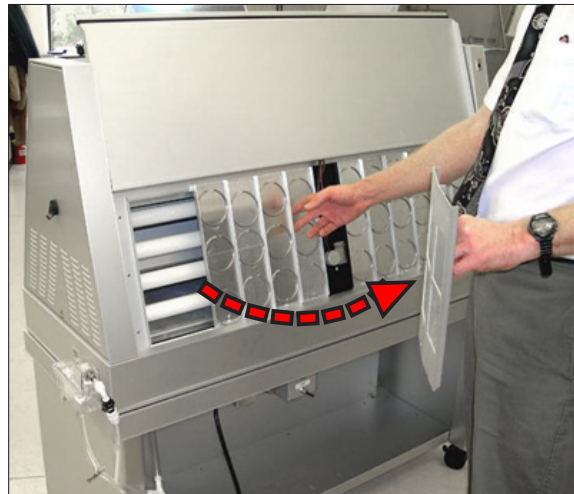

Figure 10.4a: Remove two panels from left end.
- Shut off the QUV and remove the two panel holders on the left end (Figure 10.4a).